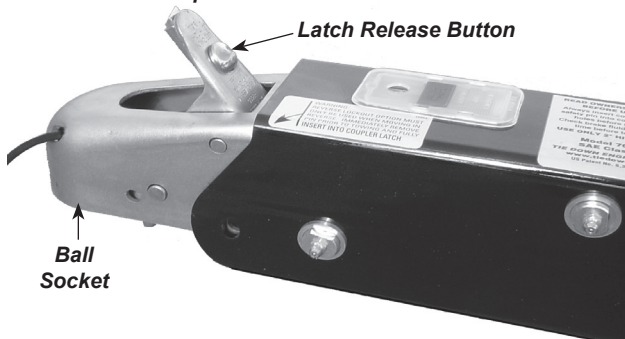
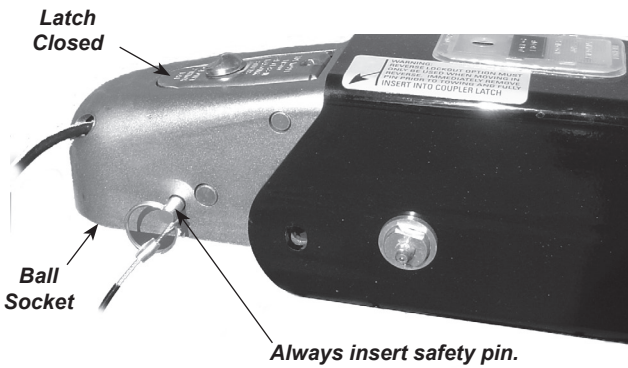

Figure F5: Brake Actuator & Coupling Assembly - Open
Figure F6: Brake Actuator & Coupling Assembly - Closed
Surge brakes are available on certain Scarab trailers. When equipped, surge brakes operate automatically when the tow vehicle's brakes are applied. When the tow vehicle slows down or stops, the forward momentum or "surge" of the trailer against the hitch ball applies pressure to a master cylinder in the trailer coupler. The master cylinder supplies hydraulic pressure through the hydraulic system which activates the trailer's disc brakes. See Figure F5. Please refer to the manufacturer's literature included in your owner's packet for further details regarding operation and maintenance.
To hitch the trailer to the tow vehicle, place the coupler latch in the open position to unlock the coupler. See Figure F5. Push down on the coupler latch to lock the trailer to the ball hitch. Push coupler latch lever back until the latch engages and is properly seated. The safety pin, provided with the trailer, or a padlock **must be inserted completely** in the forward coupler latch hole. See Figure F6. This helps ensure the coupler's latch remains in the locked position during towing of the trailer. Refer to Section F-3 Operation for additional information on couplers and hitching to the tow vehicle.
2. Open the coupler latch fully to allow the ball latch to rotate open. Note: You will have to remove the safety pin from the coupler latch hole to fully extend the coupler latch. The coupler latch will remain up to indicate that it is not yet attached to the ball. See Figures F5 & F6.